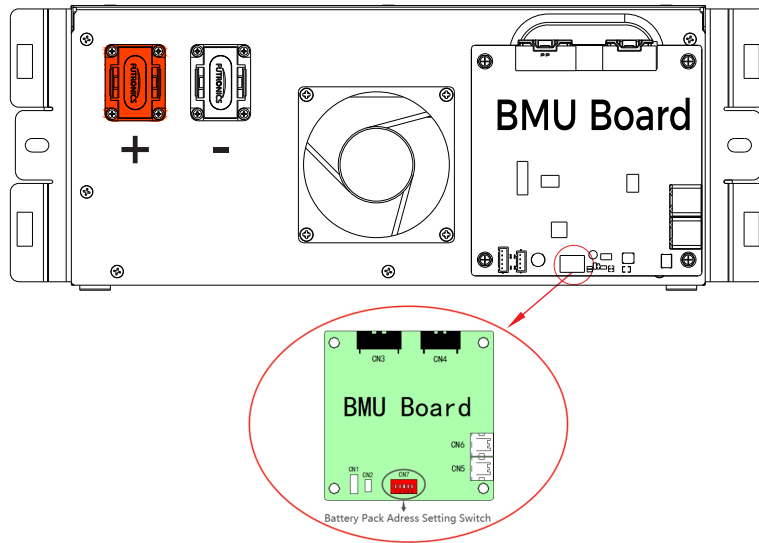

Figure-11 Diagram of battery pack and BMU board
- 3). The address of the battery box is set according to the dial switch (CN7) on the BMU board, as shown in Figure-11, the dial switch is set according to the binary address, from 1 to 5 switch represents high to low, for example: only open the first switch, close 2 to 5 switch, the set address is 16.